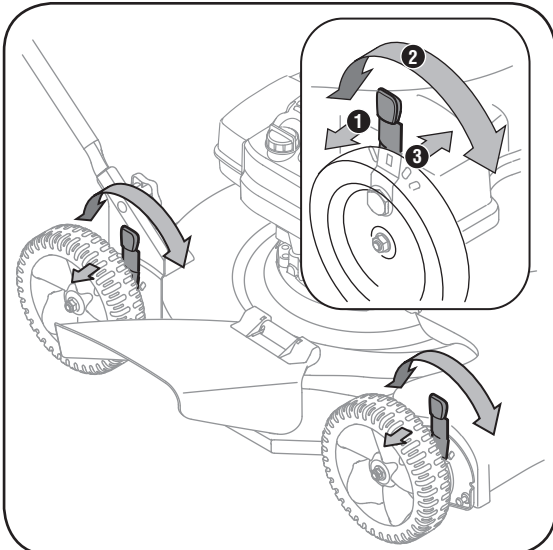

Figure 3-6: Use the lever at each wheel to adjust the cutting height.
1. Depress height adjustment lever towards wheel, Figure 3-6.